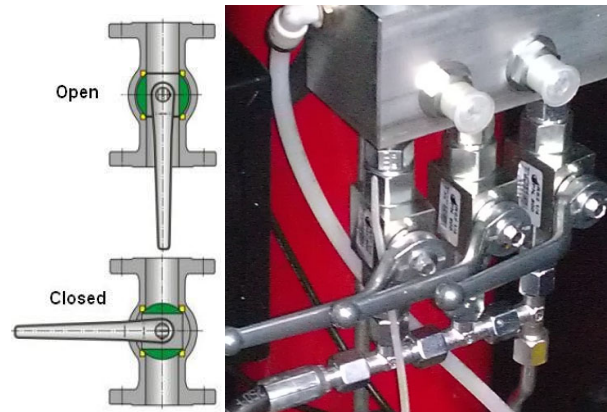

Fig. 8 – Valves
- A. Ensure all 3 valves are closed, **Fig 8**.